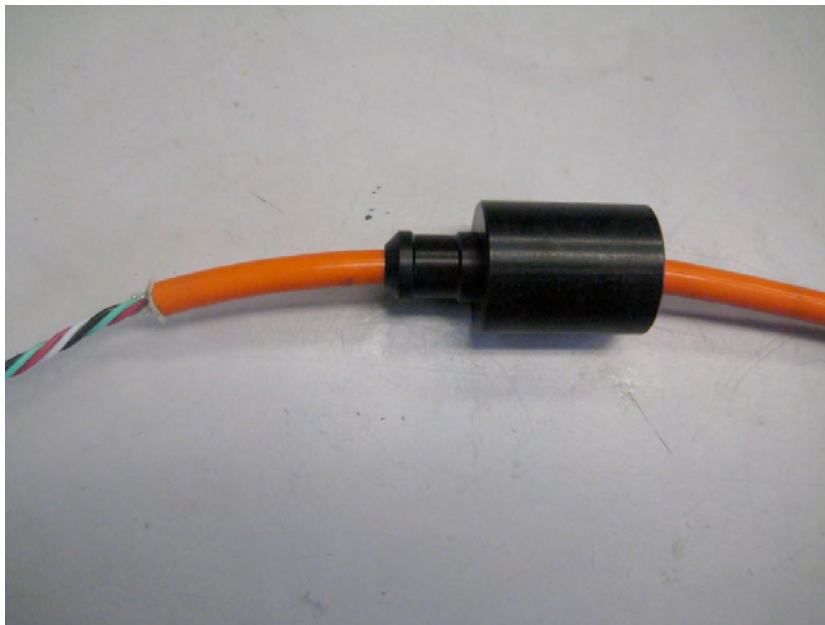

Figure 5: Morrison seal assembly on cable.
5. Disassemble the termination by cutting the two cable zip ties that hold the latex tube in place, making sure not to damage the latex tube. Slide the Morrison seal housing assembly up the cable (Figure 5). No disassembly of the Morrison seal housing is required for re-termination. Gently pull the latex tube off the underwater connector and slide the latex tube up the cable exposing the conductors. To remove the connector from the cable, either cut the heat shrink off the conductors and de-solder the connections; or, cut the conductors just on the connector side of the connections.
8. Apply o-ring grease to the outer cable jacket and slide the seal assembly over the cable oriented with the seal end being inserted first (see Figure 5).